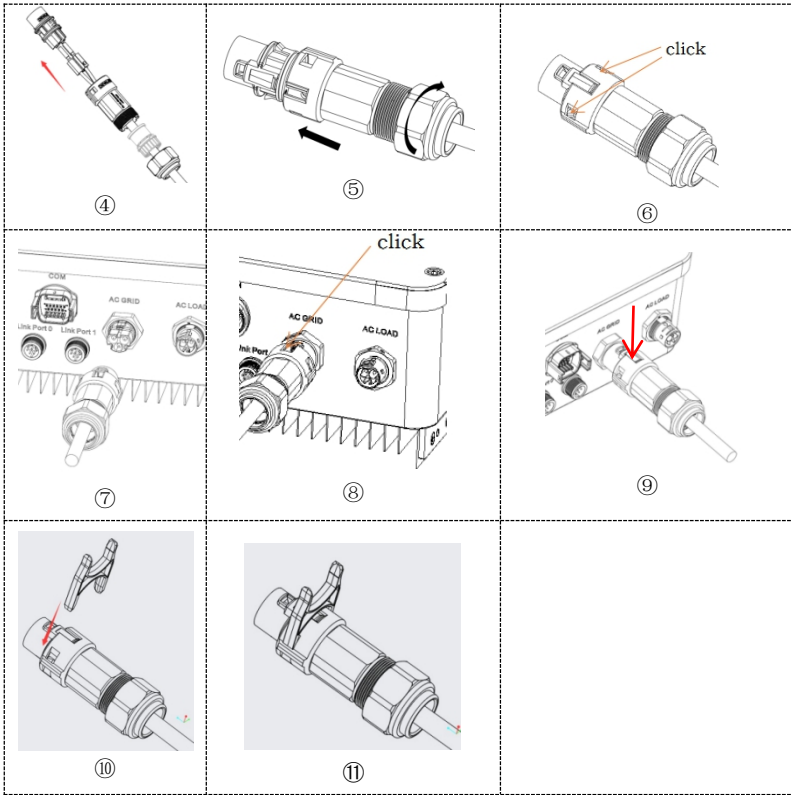

Fig. 4-5 Grid connection
Step 1 Select the appropriate cable type and specifications according to the table 4-3. Refer to Fig. 4-5① for processing wire.
Step 2 Pass the wire through the terminal, as shown in Fig. 4-5②.
Step 3 According to the mark, lock the wire into the keyhole on the terminal and tighten it with the hexagon socket wrench, as shown in Fig. 4-5③.
Step 4 Push the terminal forward until the sound of "click" is heard, as shown in Fig. 4-5④⑤⑥.
Step 5 Connect the connected grid terminal to the inverter grid port, and push the terminal forward until the sound of "click" is heard, and the terminal connection is completed, as shown in Fig. 4-5⑦⑧.